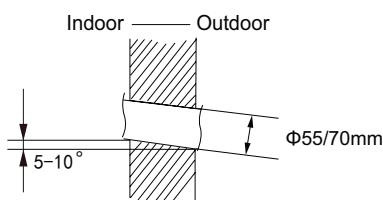

Fig.2
(2) Open a piping hole with the diameter of $\Phi 55(70)\text{mm}$ on the selected outlet pipe position. In order to drain smoothly, slant the piping hole on the wall slightly downward to the outdoor side with the gradient of $5\text{-}10^\circ$. (As show in Fig.2)